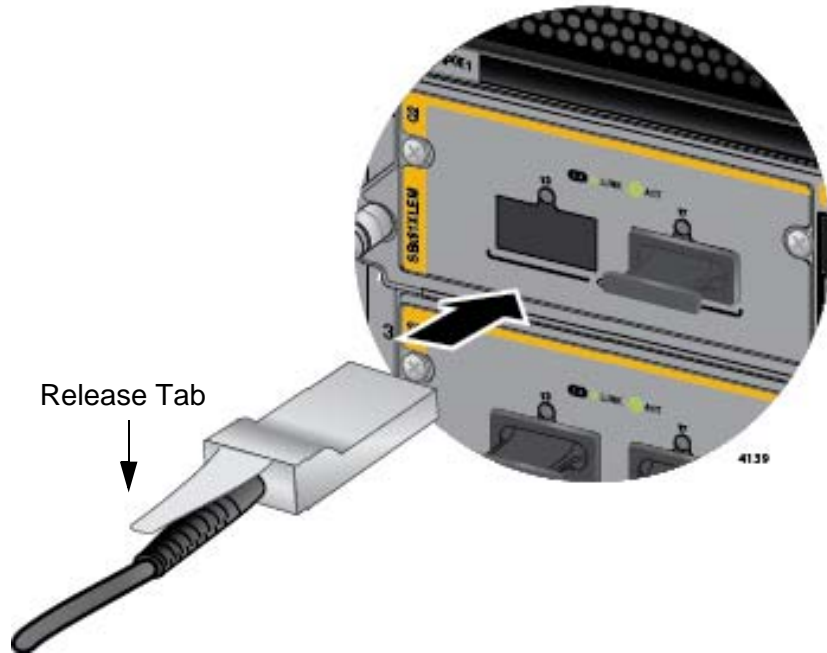

Figure 106. Sliding the AT-QSFPCU Cable into the Slot
2. Orient the connector on the AT-QSFPCU Cable with the release tab on top and slide it into the slot until it clicks into place. Refer to Figure 106 on page 169.